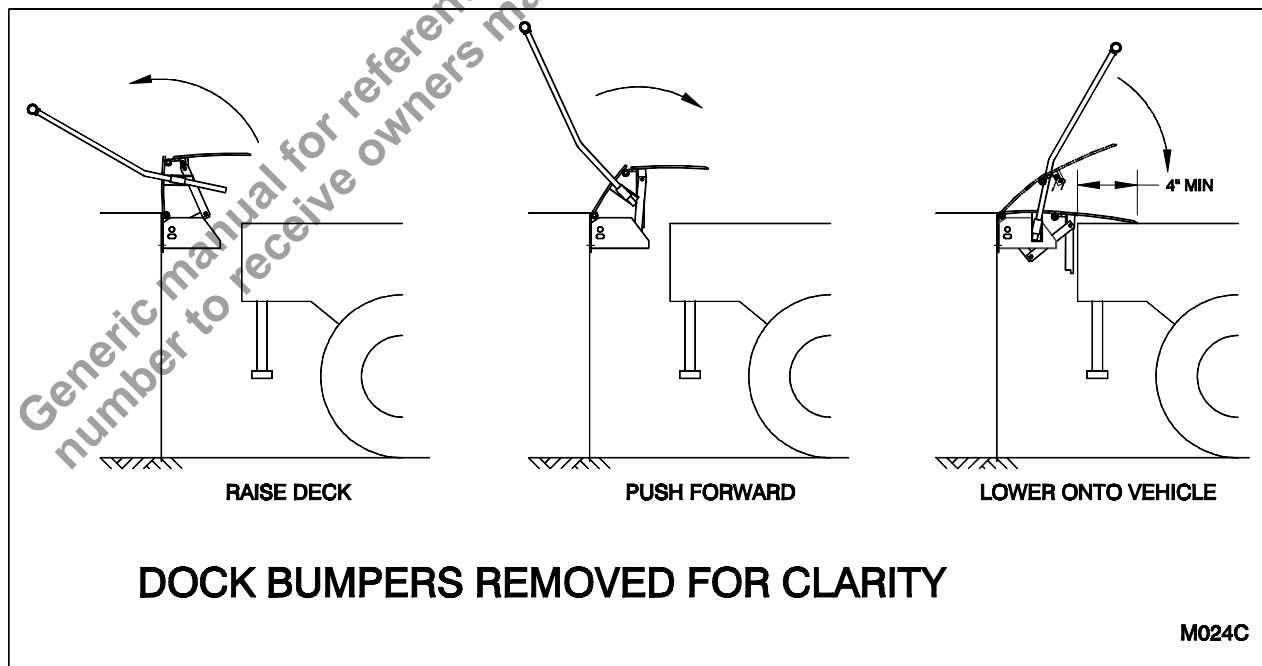

Figure 12: Operation
3. To raise the edge of dock, insert the lever arm into the lever arm guide and pull back until the deck is vertical (See Figure 12: Operation on page 16).
5. Repeat this sequence (items 3 and 4) at least three more times.
4. Push the lever arm forward to allow the deck to lower until contact is made with the truck bed. **NOTE:** The lip must extend a minimum of 4" onto the truck bed (See Figure 12: Operation on page 16).